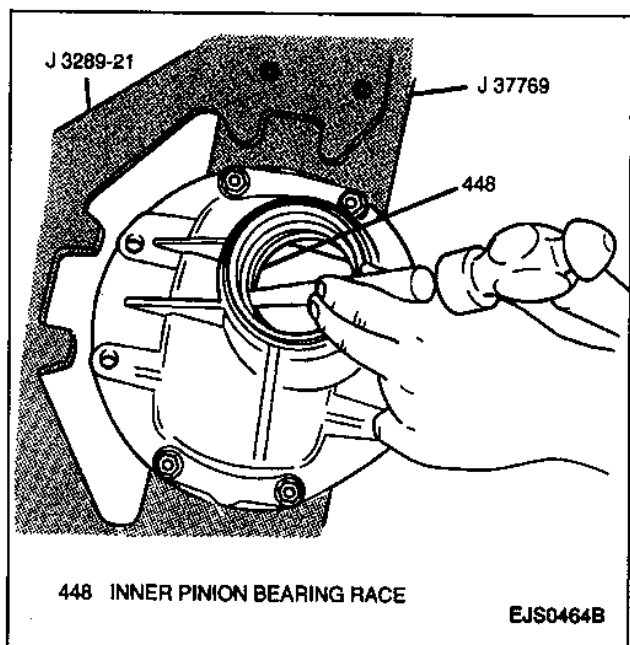

Figure 46—Removing Inner Pinion Bearing Race
15. Inner pinion bearing race from differential carrier using a large drift punch and hammer. Tap around the rear of the rear of the bearing race and slowly drive each race out evenly (Figure 46).